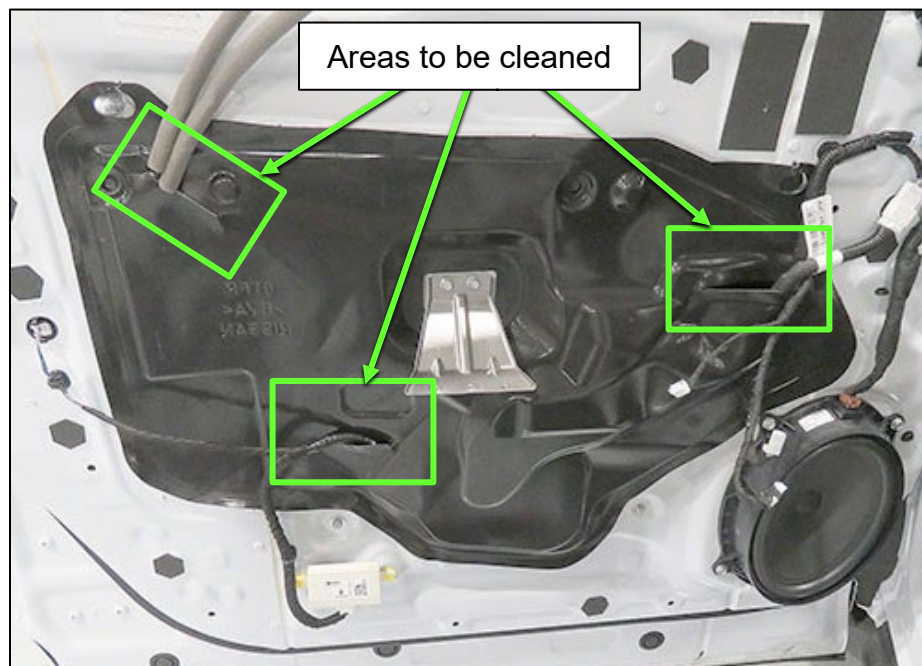

Figure 21
28. Use 80-220 grit sandpaper to scuff the three (3) areas shown in Figure 21.
29. Clean the door seal surface in the three (3) areas shown in Figure 21 with alcohol.